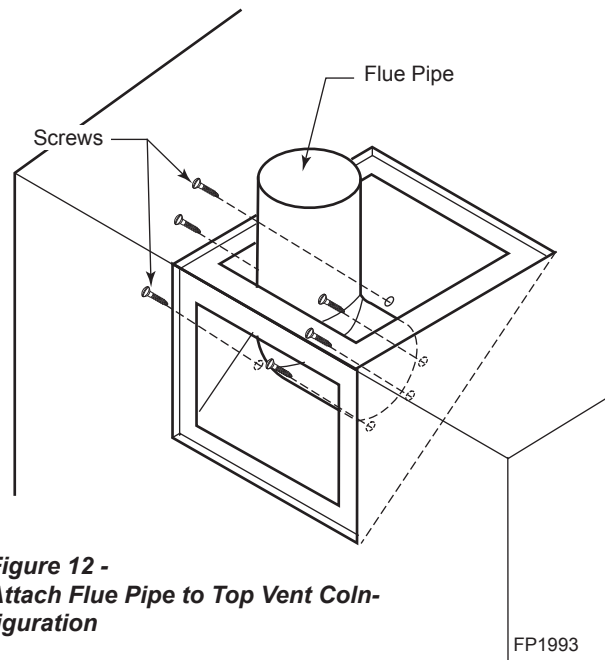

**Figure 10 -
When installing into existing framed (A1) openings, loosen the junction box. Remove the rear-mounted flue pipe adaptor. Refer to Page 16, Figures 10 and 11. Reattach both assemblies.
1. Remove the eight (8) screws securing the flue pipe adapter to the fireplace body. *Figure 10*
3. Remove the eight (8) screws securing the flue pipe cover to the top of the intake box and remove the cover and gasket. *Figure 10*